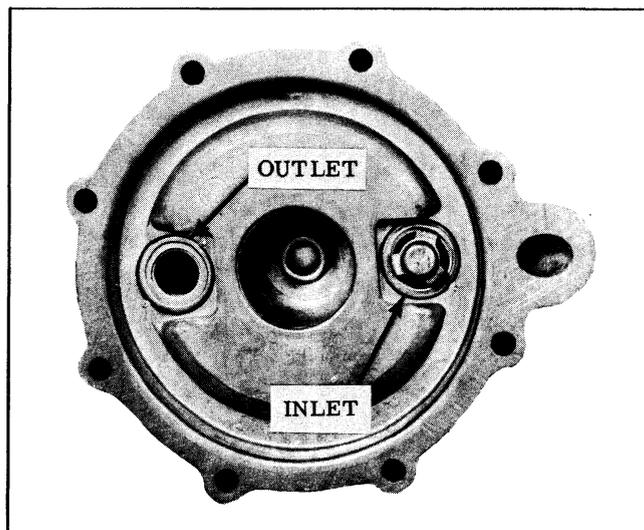

Fig. 8-73 Vacuum Valves
1. If valves were removed, place paper gaskets in recesses provided for valves in vacuum cover. Place valve assemblies on top of gaskets. (See Fig. 8-73)